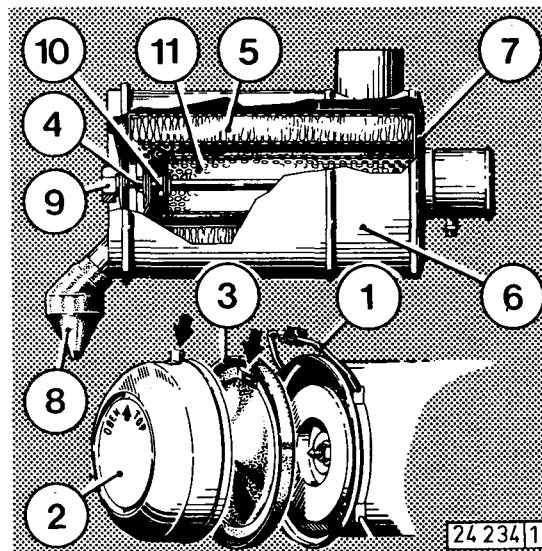
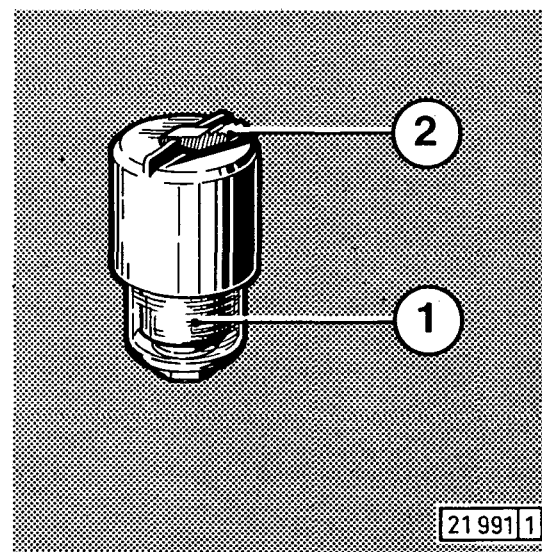

Fig. 35
Fig. 36
The life of the expendable paper cartridges in dry-type air cleaners depends on dust collector 2 (Fig. 35) being emptied in good time. Failing this, the cartridge will clog up fast. Be sure, therefore, to empty the collector not later than when filled half-way. **Where the air is very dust-laden, this may require daily servicing.**
- Release clip 1 (Fig. 35) and remove dust collector 2 along with cover 3.
- Refit assembly, making sure that recess on cover mates with lug on collector (see arrows, Fig. 35).
Where a service gauge (Fig. 36) is fitted and keeps displaying the red warning signal 1 when the engine is stopped, or where a yellow warning light goes on with the engine running, the cartridge is due for servicing. (Also indicated by smoking exhaust and decreasing engine output). It is not advisable to service the cartridge more frequently, as this may affect seal 7 (Fig. 35) between cartridge 5 and housing 6.
- Proceed by taking down dust collector 2 (Fig. 35) as described under 2.1.